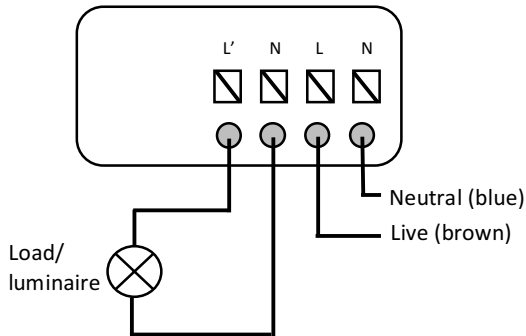

Fig 1
- Connect the sensor to the luminaire and mains supply via push-fit connectors ensuring the correct polarity is observed (see Fig 1)